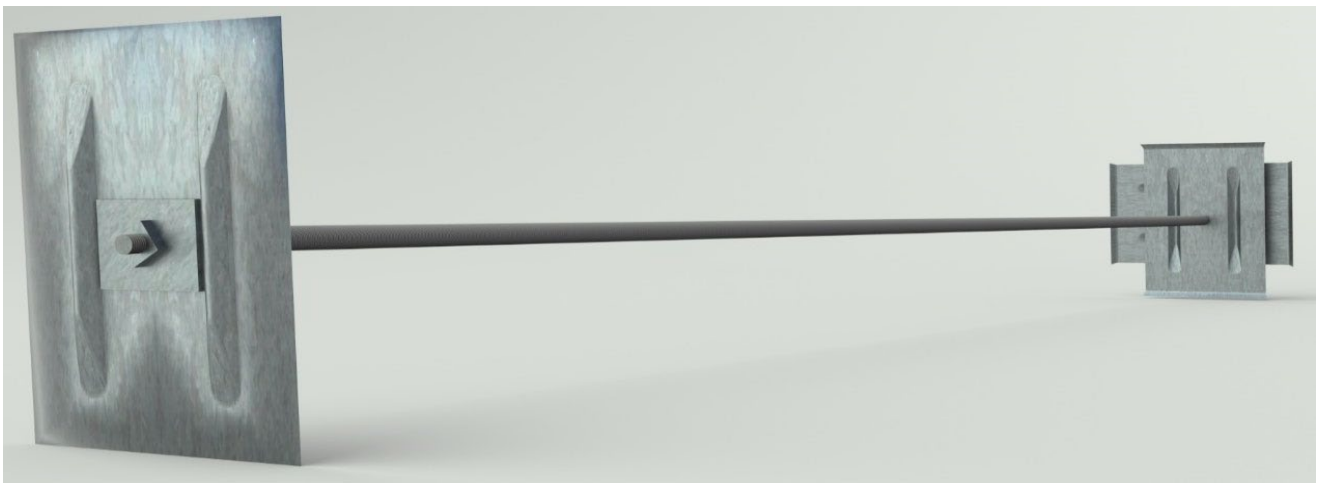

FIGURE 1—GRIP-TITE[®] WALL ANCHOR SYSTEM ASSEMBLY
3.1 General: Grip-Tite® Wall Anchor System consists of the following components described in Sections 3.2 to 3.7 and as illustrated in Figure 1.
2. Friction angle is denoted as ϕ , as shown in Figure 1.